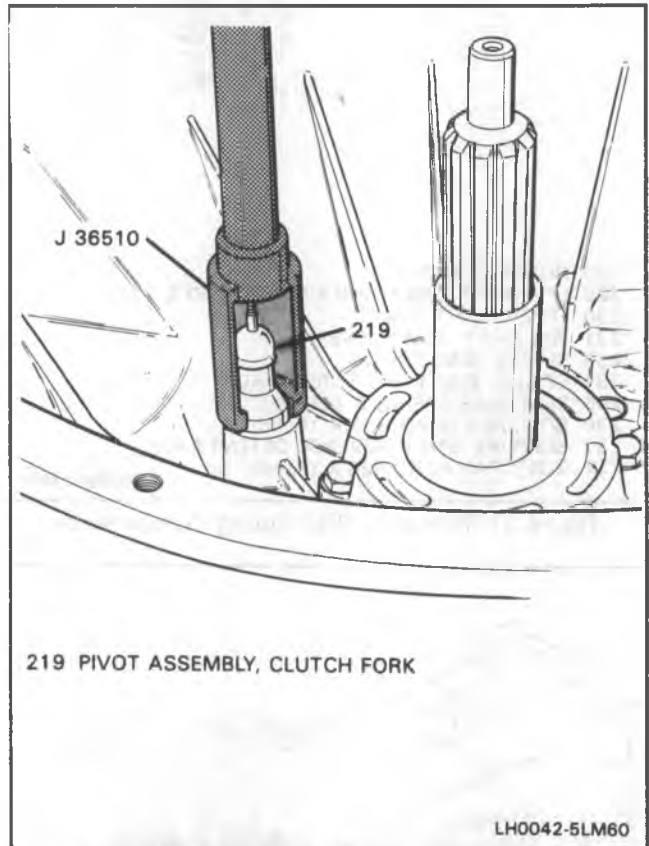
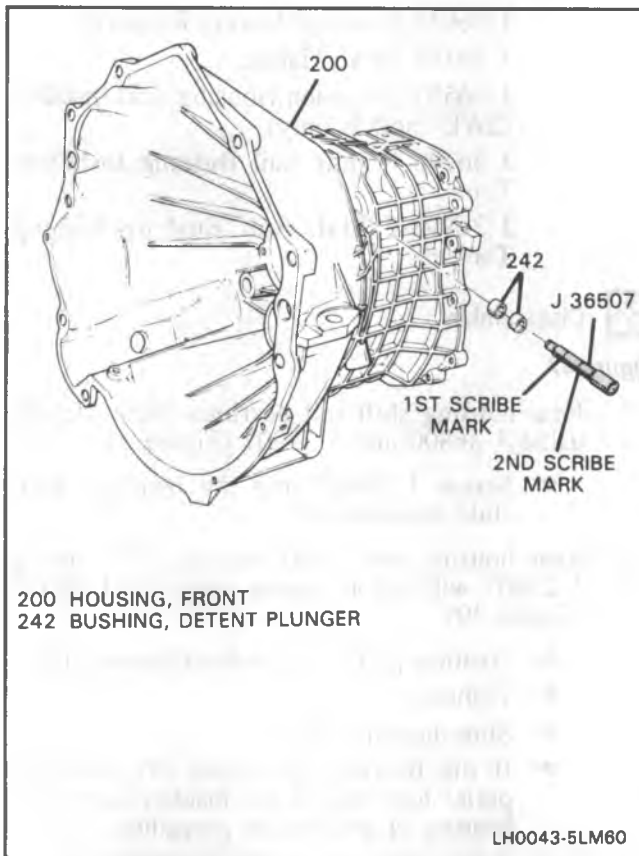

Figure 41 Clutch Fork Pivot Assembly Install
Figure 42 Detent Plunger Bushings Install
3. Clutch fork pivot assembly (219), using J 36510 and J 36190 (Figure 41).
- Grease after installation through lube fitting (220).
4. Two detent plunger bushings (242), using J 36507 (Figure 42).